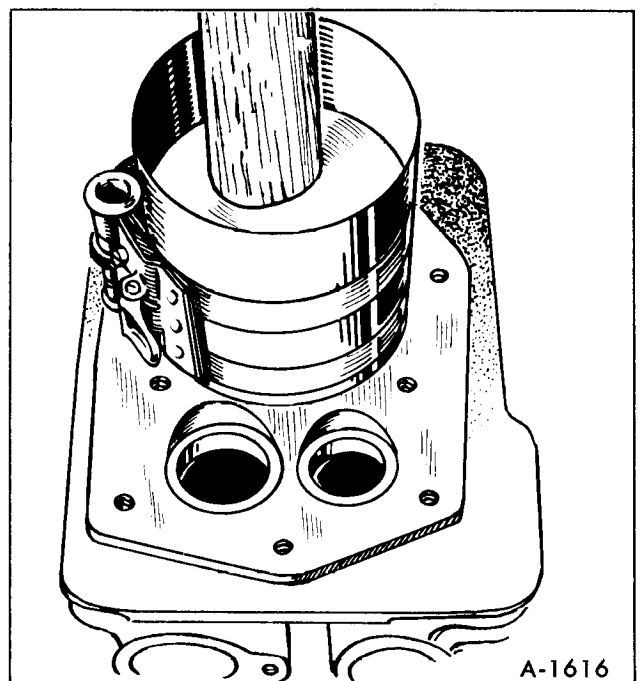

Figure 27-Installing Piston
2. Lubricate the number one piston assembly and inside of the cylinder. Compress the rings with a ring compressor as shown in Figure 27.
4. Tap the piston down into the bore with the handle end of a hammer until the connecting rod is seated on the journal (figure 27). Install the bearing cap on the rod with the witness marks and stamped reference numbers matching the marks on the rod. Install and tighten the bolts to the specified torques.